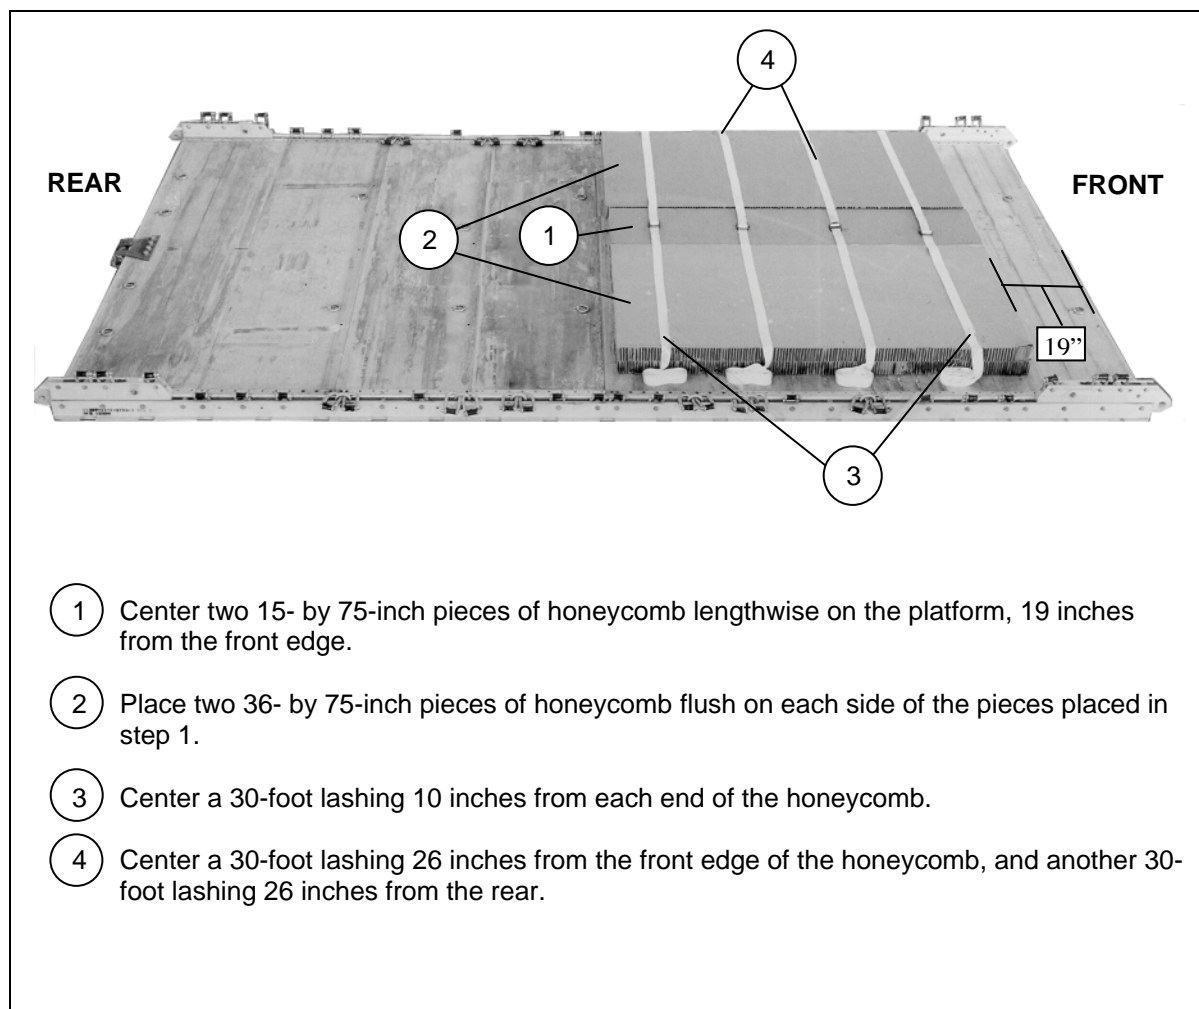

Figure 5-27. Honeycomb for First Ammunition Stack Prepared and Placed
5-35. Build the honeycomb stack for the first stack of ammunition and place it on the platform according to FM 4-20.102/MCRP 4-11.3J/NAVSEA SS400-AB-MMO-010/TO 13C7-1-5 and as shown in Figure 5-27. Build the stack for the second stack of ammunition as shown in Figure 5-27. Set the second honeycomb stack aside.
- 9 Position a second honeycomb stack 17 inches from the rear edge of the platform. Pre-position four 30-foot lashings on the honeycomb as shown in Figure 5-27, steps 3 and 4.